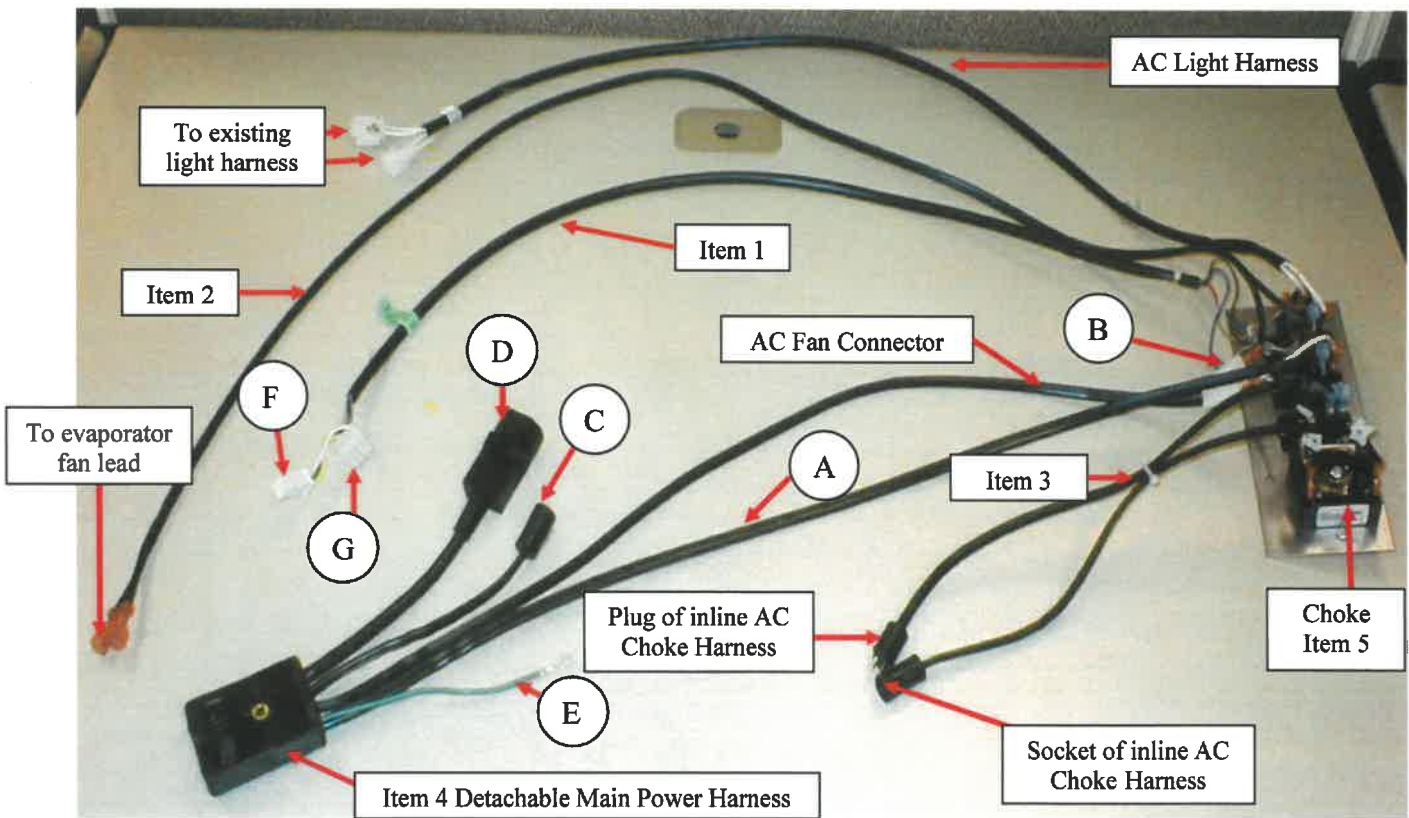
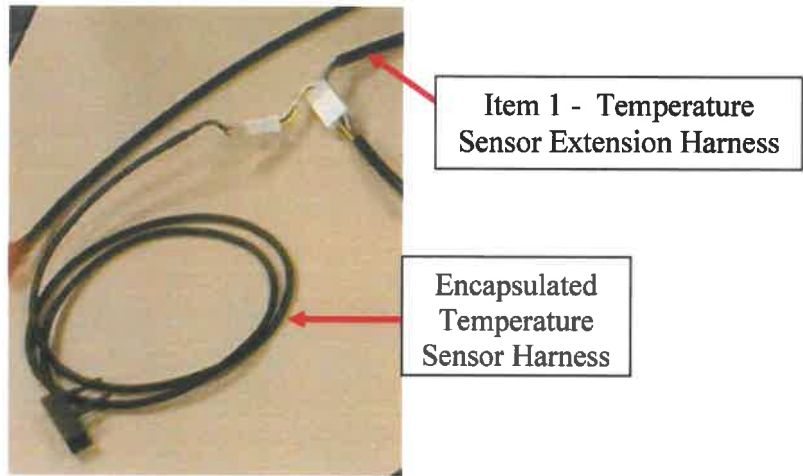

Figure 4
Figure 7
- i. Item 'D' (see Figure 4) of the Detachable Main Wiring Harness is connected to the GFCI Detachable Power Cord 115VAC.
5. Environmental Kit Harness connections (see Figures 4, 5, and 6 on pages 4 & 5):
- a. The 4 position socket (F) of the Relay Control Harness (804,917,42x.x1, Figure 4, item #1, page 4) is connected to the 4 position plug of the Encapsulated Temperature Sensor (Figure 7, page 6).
6. Encapsulated Temperature Sensor (Figure 7, page 6) connections:
- a. The 4 position plug of Encapsulated Temperature Sensor is connected to the 4 position socket of the Relay Control Harness (see “F” Item #1 Figure 4 & Figure 7).
- b. The 8 position socket of the SBC Temperature Sensor and Relay Extension Harness (804,919,22x.x1) is connected to the 8 position plug of the Relay Control Harness (see G Figure 4, item #1, page 4).